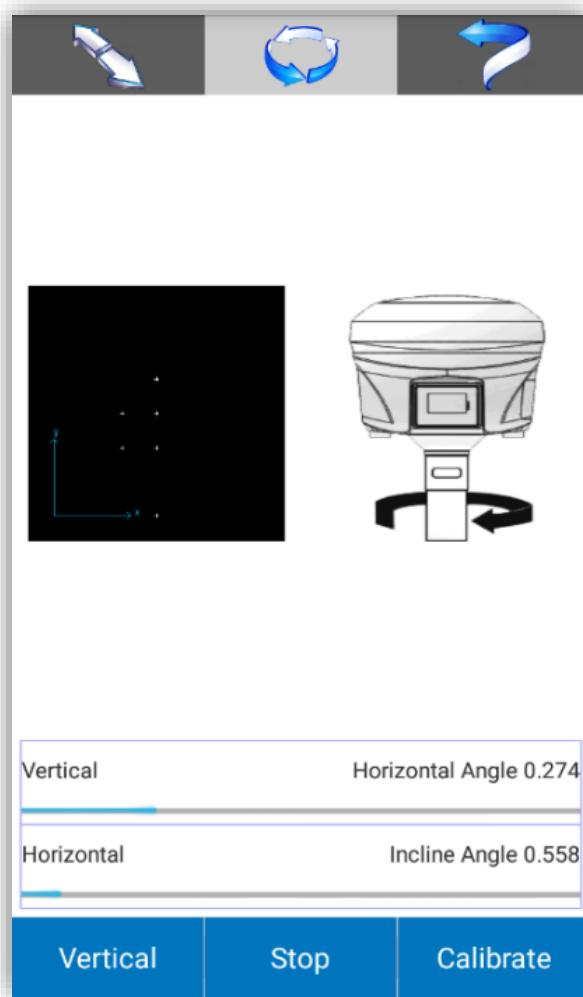
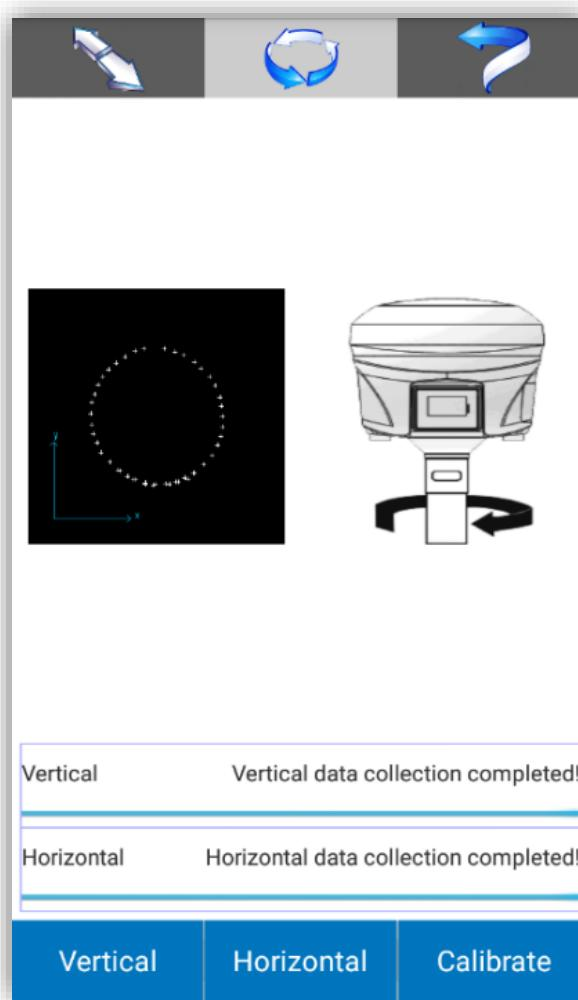

Figure 7.12
Figure 7.13
② Horizontal receiver calibration: Click "Horizontal" and make a circle with the pole with respect to the center of the same pole, also in this case the speed of the pole should not exceed 15°/s. After the telescope has made the circular rotation, the data is recorded, and the receiver will emit a BEEP. The recording of horizontal data is shown in Figure 7.12. At the end of the data recording a message will appear to complete the operation as shown in Figure 7.13.